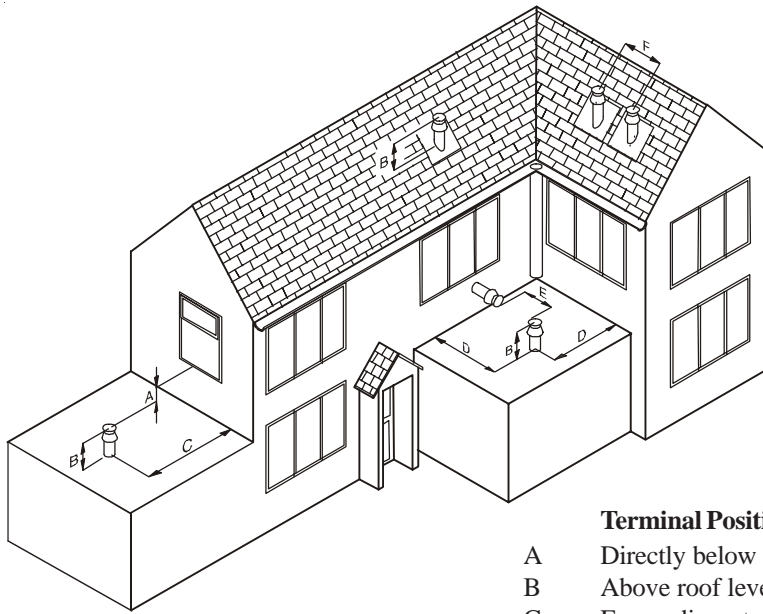

Fig. 6
5.3.6 Fig. 6 shows recommended terminal positions.